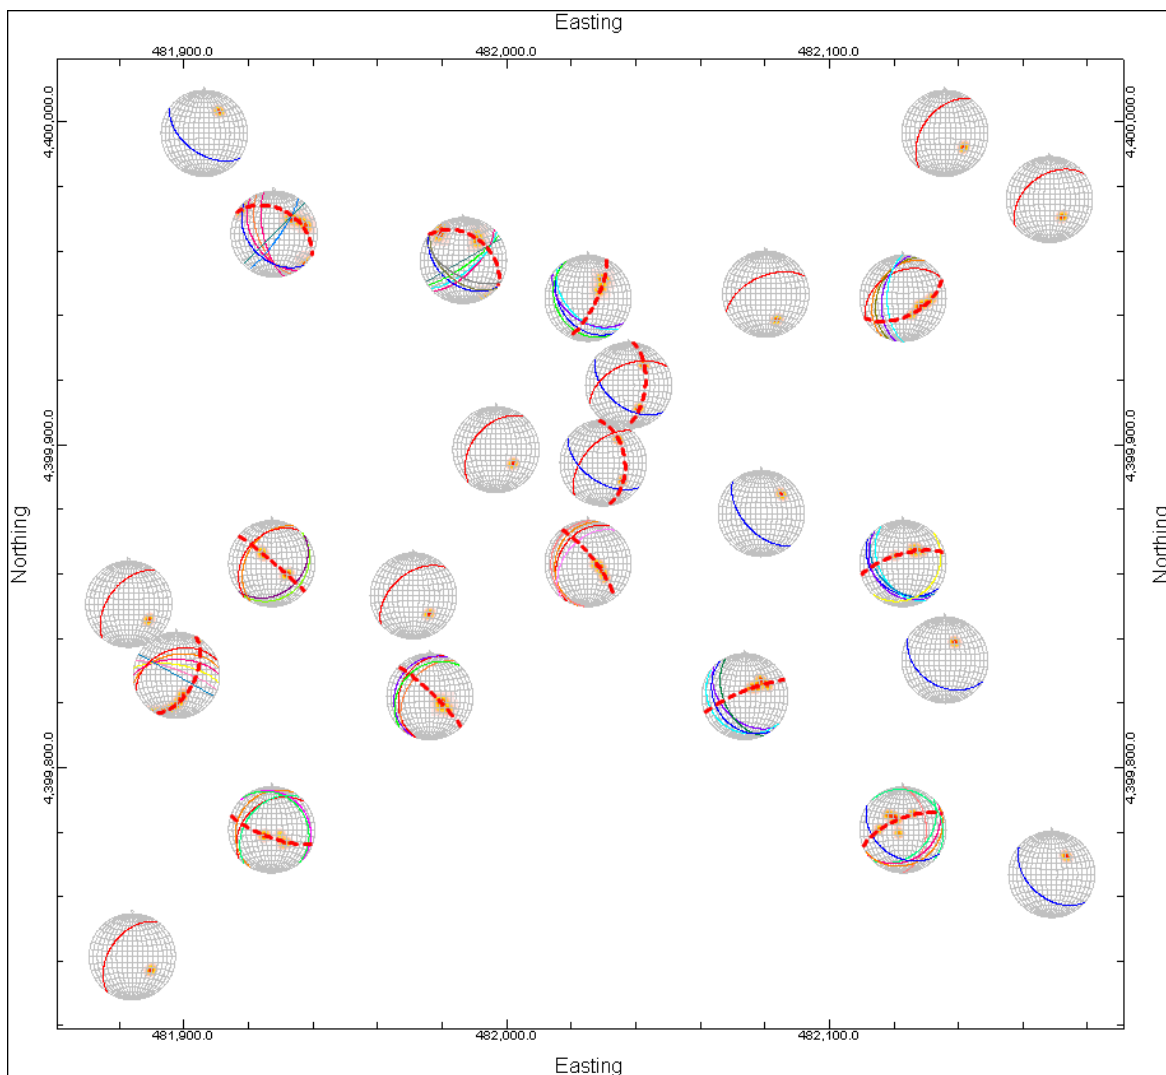

Figure 16
- Click the *Continue* button and a stereonet map (Figure 16) will be displayed as a new tab within the *Borehole Fractures -> Stereonet Map* menu.